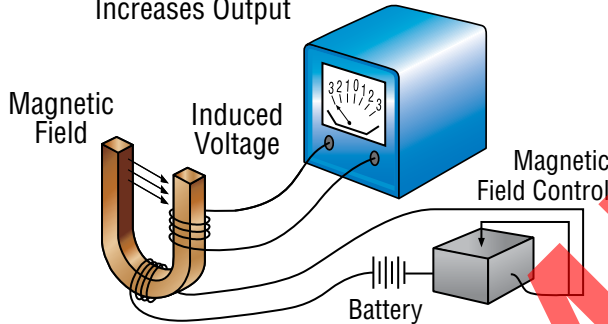

Figure 4 – Increasing the Strength of the Magnet Increases the Voltage
- Increase the strength of the magnet (send more current to the rotor) (Figure 4). This is the most popular method of controlling the output of the alternator and is used in the majority of Miller Engine Drives.